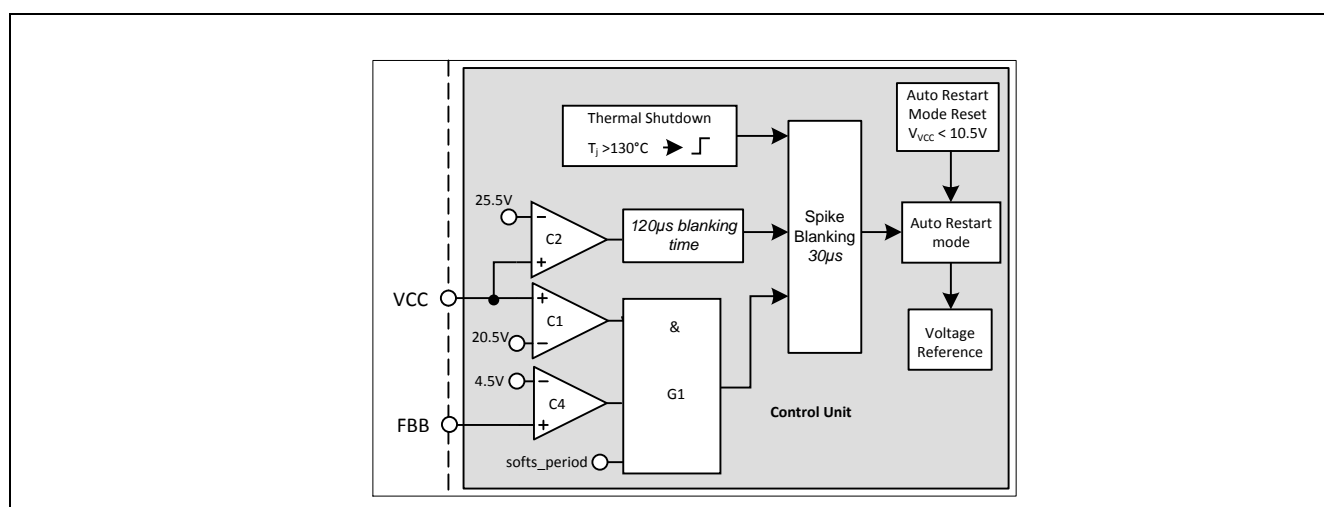

Figure 30: VCC OVP and OTP
VCC OVP (1) condition is when V_{VCC} voltage is > 20.5V, V_{FBB} voltage is > 4.5V and during soft start period, the IC enters into odd skip Auto Restart Mode. This condition likely happens during start up at open loop fault (Figure 30).
V_{CC} OVP (2) condition is when V_{CC} voltage is > 25.5V, the IC enters into odd skip Auto Restart Mode (Figure 30).
The over temperature protection OTP is sensed inside the controller IC. The Thermal Shutdown block keeps on monitoring the junction temperature of the controller. After detecting a junction temperature higher than 130°C, the IC will enter into the non switch Auto Restart mode. The ICE3AR1580VJZ has also implemented with a 50°C hysteresis. That means the IC can only be recovered when the controller junction temperature is dropped 50°C lower than the over temperature trigger point (Figure 30).